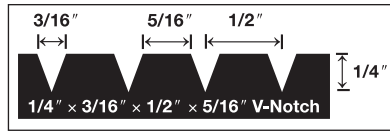

Figure 2
- 1/4" x 1/2" x 3/16" (6 mm x 13 mm x 8 mm) V-Notch trowel (Figure 2) or other adhesive manufacturer's trowel